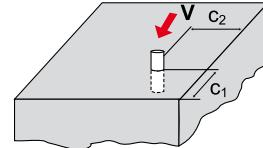

fig.32
- b) The factor  $\psi_e$  takes account of the presence of an edge lateral to the external anchors of the group. If the lateral edge distance is  $c_2$  (fig.32):